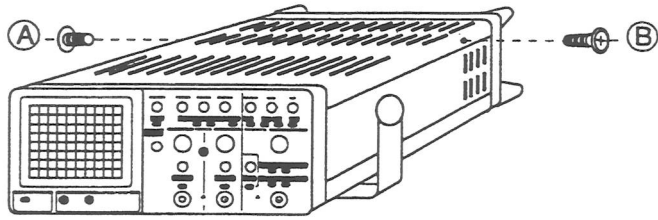

figure 16
- Remove screws A and B (figure 16).
- Replace screws A and B to secure the cover (Figure 16).